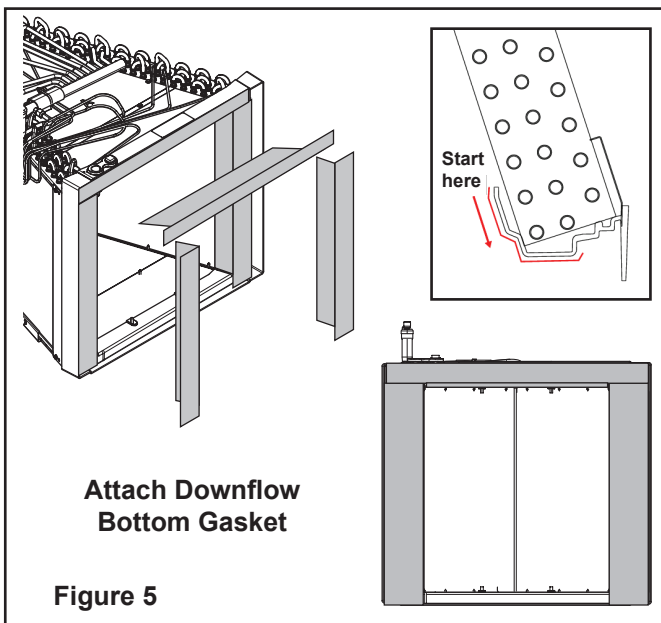

Figure 5
- Attach the 4" gasket material to three sides of the bottom of the drain pan as shown in Figure 5. Make sure to start by matching up the edge of the gasket material to the inner edge of the drain pan by the coil fins and working outwards.
- The gasket material can be cut or ripped easily so that it can be tailored to fit. The gasket material must cover the three sides along the entire length of the coil as shown in Figure 5.